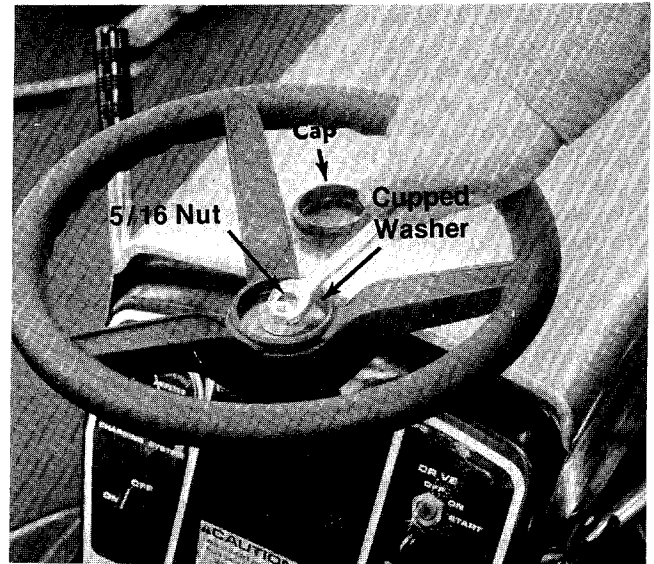

FIGURE 1
- Step 2. Place the steering wheel over the tapered end of the steering column. Press it down until the threaded end sticks through the steering wheel. See figure 1.